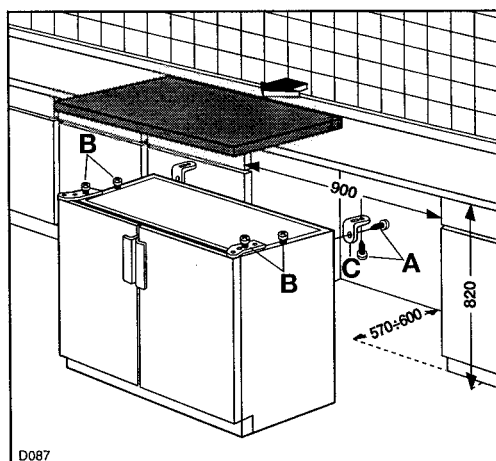

Fig. 4
remove the screws (A) fixing the rear brackets (C) to the top, detach the top from the catches (B) and remove (Fig. 4).